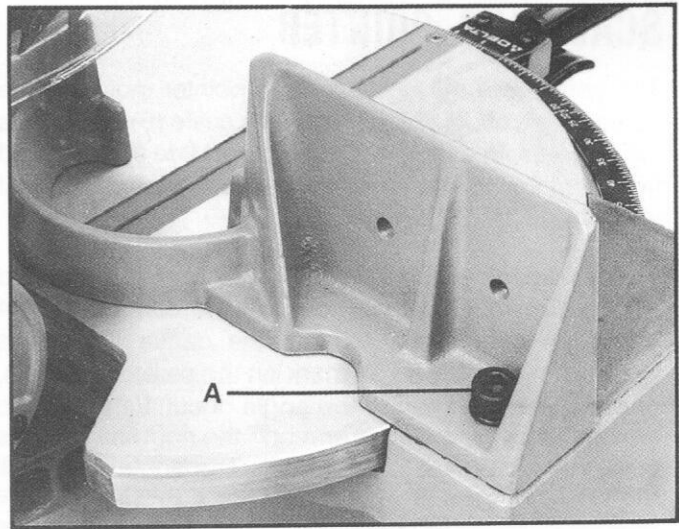

Fig. 19
4. If an adjustment is necessary, the fence can be adjusted by loosening the two screws, one of which is shown at (A) Fig.19 that attach the fence to the base.